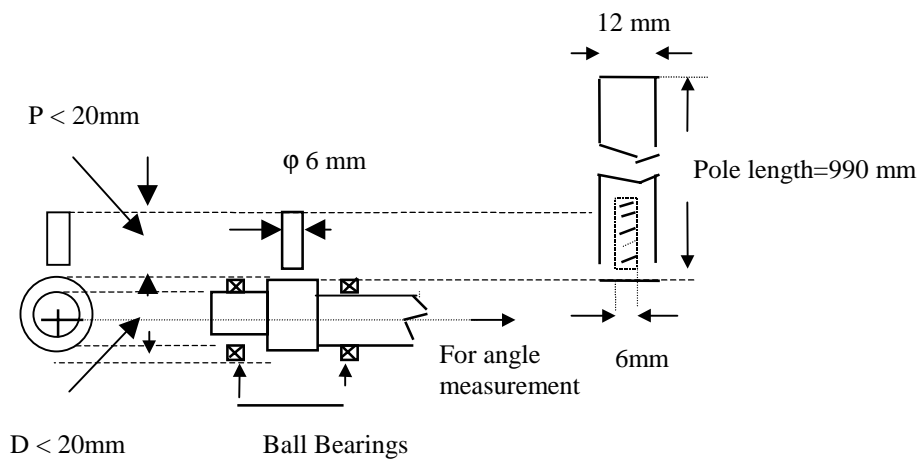

Fig.1. Pole Support Mechanism
- 3.1. The supporting mechanism must be compatible to the diagram shown in Fig. 1. Ball bearings must be used in the axle of rotation supporting the pole, only exception being the instrumentation potentiometer or encoder. If the potentiometer or encoder is driven through gears then the gear friction must be very small as quantified in section 3.2. It must be able to swing freely from -45° to $+45^\circ$ from the vertical position when the vehicle is positioned in region B.